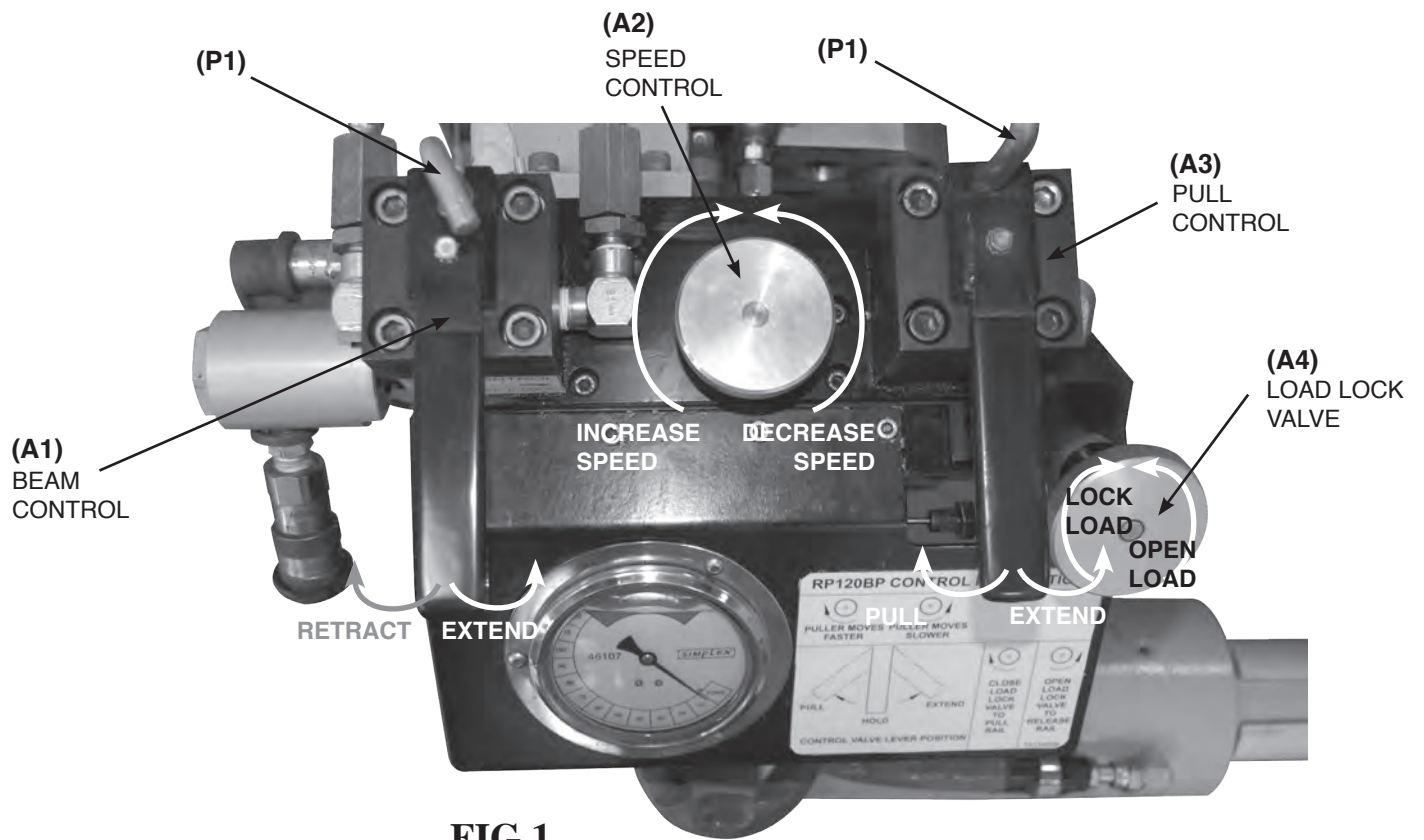

FIG.1
8. SHIFT THE PULL CONTROL VALVE {(A3) IN FIG. 1} TO THE PULL POSITION AND BEGIN TURNING THE SPEED CONTROL VALVE {(A2) IN FIG. 1} CLOCKWISE UNTIL THE PULLER BEGINS CLOSING THE GAP, MONITOR THE TONNAGE GAUGE FOR PULL FORCE.
NOTE: CONTINUING TO TURN THE SPEED CONTROL {(A2) IN FIG. 1} CLOCKWISE INCREASES THE SPEED AND FORCE OF THE PULL. TURN THE SPEED CONTROL VALVE {(A2) IN FIG. 1} COUNTER CLOCKWISE TO SLOW DOWN THE PULL FOR MEASURING AND CONTROLLING THE GAP IN THE FINAL STAGES OF PULL.
9. AS SOON AS THE GAP IS MADE, SHIFT THE PULL CONTROL VALVE {(A3) IN FIG. 1} BACK TO THE CENTER POSITION, AND TURN THE SPEED CONTROL VALVE {(A2) IN FIG. 1} COUNTER CLOCKWISE.
WITH PTO OFF, SHIFT THE PULL CONTROL VALVE **{{A3} IN FIG. 1}** TO THE EXTEND POSITION. OPEN THE LOAD LOCK VALVE **{{A4} IN FIG. 1}** BY TURNING THE KNOB COUNTER CLOCKWISE. THE PRESSURE READING ON THE TONNAGE GAUGE SHOULD BE ZERO. SHIFT THE PULL CONTROL VALVE **{{A3} IN FIG. 1}** BACK TO THE CENTER POSITION.
2. START PTO. SHIFT THE PULL CONTROL VALVE **{{A3} IN FIG. 1}** TO THE EXTEND POSITION. TURN THE SPEED CONTROL VALVE **{{A2} IN FIG. 1}** CLOCKWISE UNTIL THE PULL CYLINDERS EXTEND. AS SOON AS THEY REACH THEIR FULL EXTENSION, REOPEN THE SPEED CONTROL VALVE BY TURNING IT COUNTER CLOCKWISE. SHIFT THE PULL CONTROL VALVE **{{A3} IN FIG. 1}** TO THE CENTER POSITION.
3. SHIFT THE BEAM CONTROL VALVE **{{A1} IN FIG. 1}** TO THE EXTEND POSITION. TURN THE SPEED CONTROL VALVE **{{A2} IN FIG. 1}** CLOCKWISE UNTIL THE BEAM EXTENDS TO THE CLAMP. AS SOON AS THE BEAM REACHES THE CLAMP, REOPEN THE SPEED CONTROL VALVE BY TURNING IT COUNTER CLOCKWISE. SHIFT THE BEAM CONTROL VALVE **{{A1} IN FIG. 1}** TO THE CENTER POSITION.